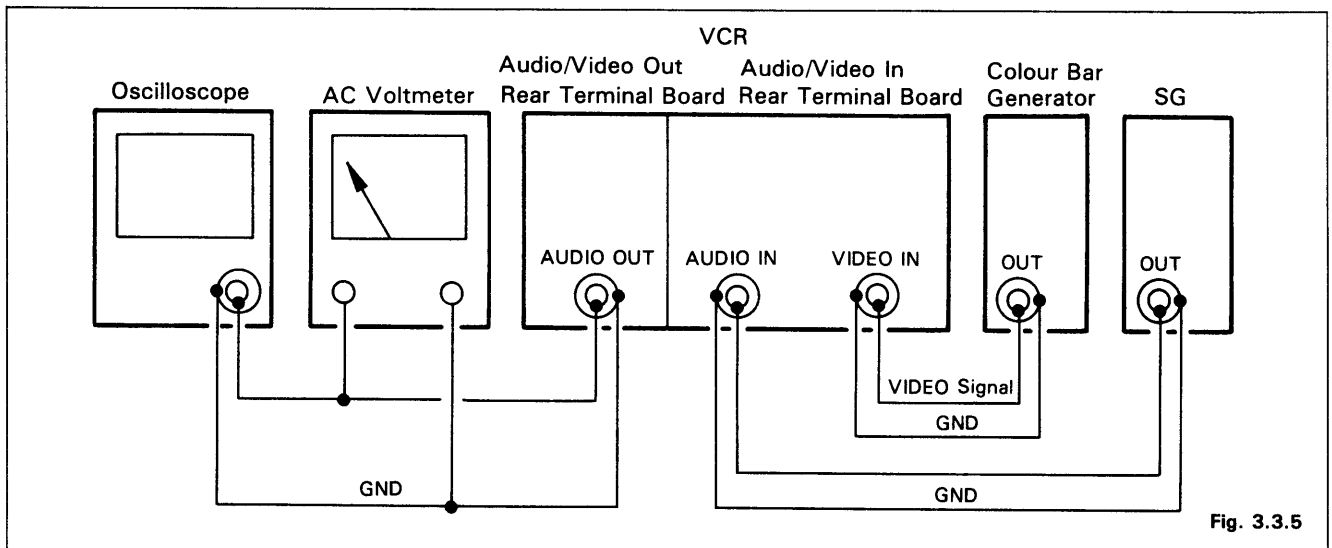

Fig. 3.3.5
- Connect the standard audio signal generator to AUDIO INPUT terminal. (Refer to Fig. 3.3.5)